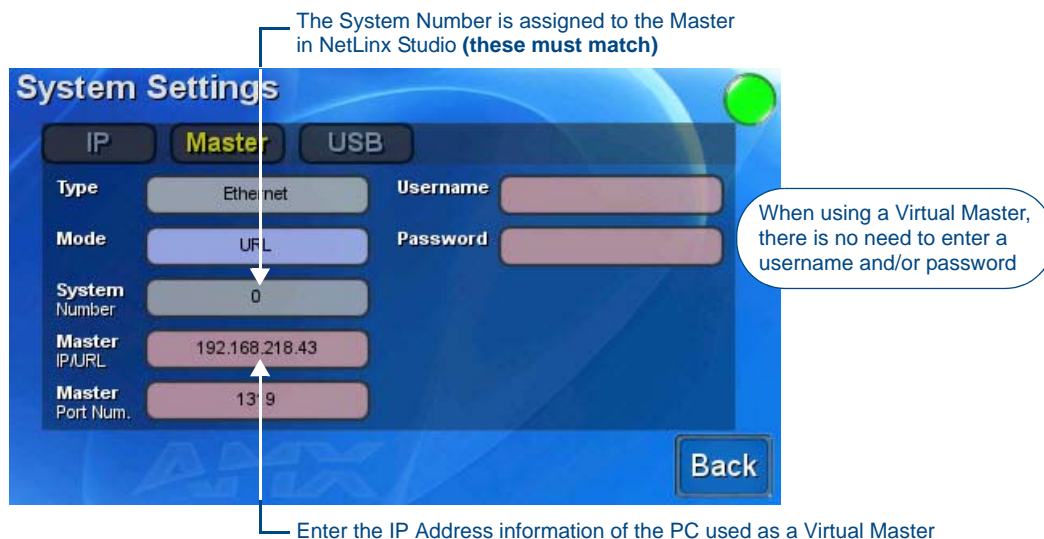

FIG. 36 Sample System Settings page (for Virtual Master communication)
11. Select **Protected Setup > System Settings** and click the **Master** tab (FIG. 36).
1. Open the System Settings page - Master tab (see FIG. 36 on page 36).